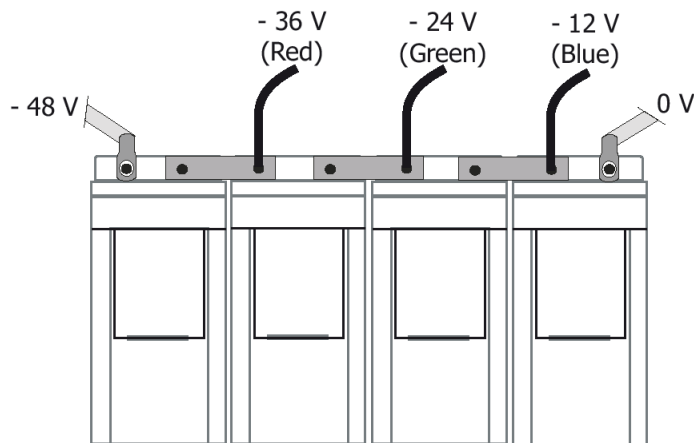

Figure 4-9 Symmetry Measurement (for illustration only)
3. Fix the 3 wires (red, green and blue) of the symmetry cable to individual cable lugs. Color coding of the cables must be respected for proper symmetry measurement see Figure 4-9.